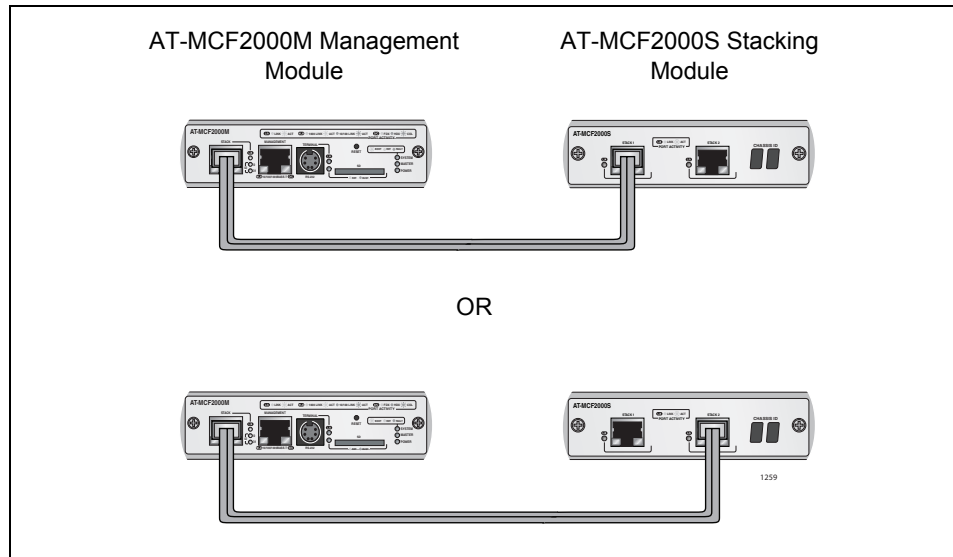

Figure 76. Cabling the AT-MCF2000M Management Module to the AT-MCF2000S Stacking Module
2. To build a management stack, connect a standard straight-through or crossover TIA/EIA 568-B-compliant Enhanced Category 5 (Cat 5e) shielded or unshielded cabling with 100 ohm impedance to the Stack port. Connect the other end of the cable to either of the Stack ports on the AT-MCF2000S Stacking Module in the next chassis as shown in Figure 76. The maximum distance of a stacking cable is 100 meters (328 ft.).